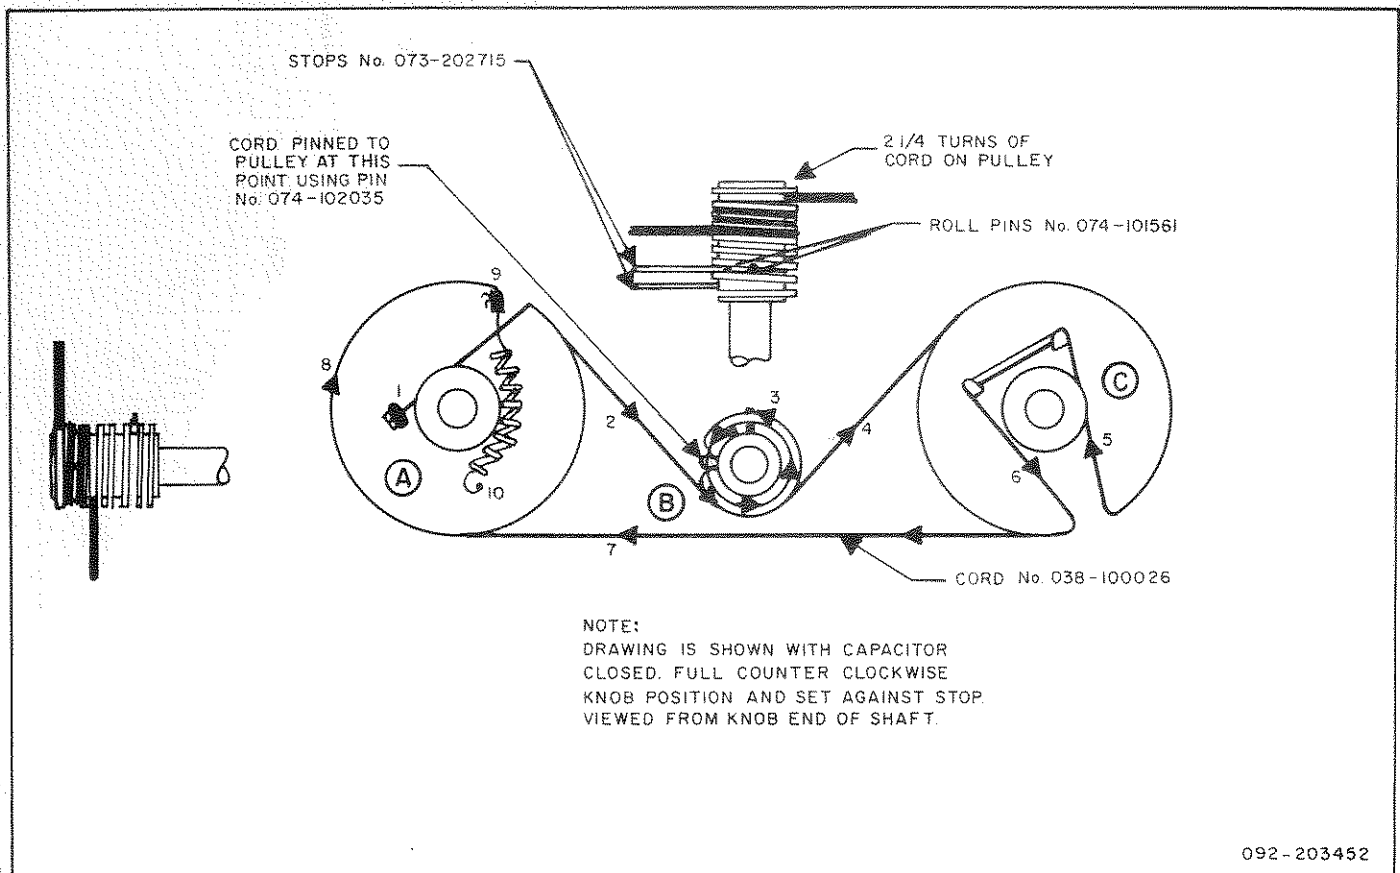

Figure 7. Tuning Dial Cord Stringing Diagram.
- D. Re-string the dial cord as follows: (Figure 7):
1. Attach the end of the cord to the tab (1) and pull the cord up and around wheel A. Proceed clockwise around wheel A down behind wheel B (2).
2. Complete 2-1/4 turns of cord on wheel B (3) and proceed up and over wheel C (4). Continue around wheel C up and around the tabs (5 and 6).